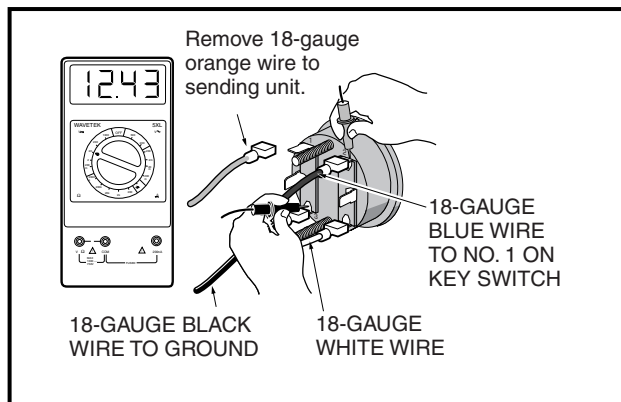

Figure 11-54 Fuel Gauge Test
7. Set a multimeter to 20 volts DC and place the red (+) probe of the multimeter on the (2) terminal of the fuel gauge/hour meter with the blue wire. Place the black (-) probe on the (3) terminal of the fuel gauge/hour meter with the black wire (**Figure 11-54, Page 11-44**).
9. Turn the key switch ON. The voltage reading should be the same as the battery voltage reading recorded earlier. If not, check the continuity of the blue and black wires (**Figure 11-54, Page 11-44**).